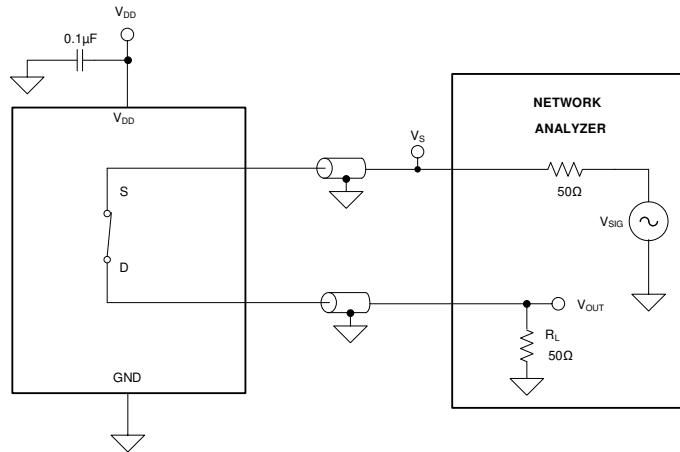

**Figure 7-6. Off Isolation Measurement Setup**
Off isolation is defined as the ratio of the signal at the drain pin (D) of the device when a signal is applied to the source pin (S) of an off-channel. The characteristic impedance,  $Z_0$ , for the measurement is  $50\Omega$ . Figure 7-6 shows the setup used to measure off isolation. Use off isolation equation to compute off isolation.